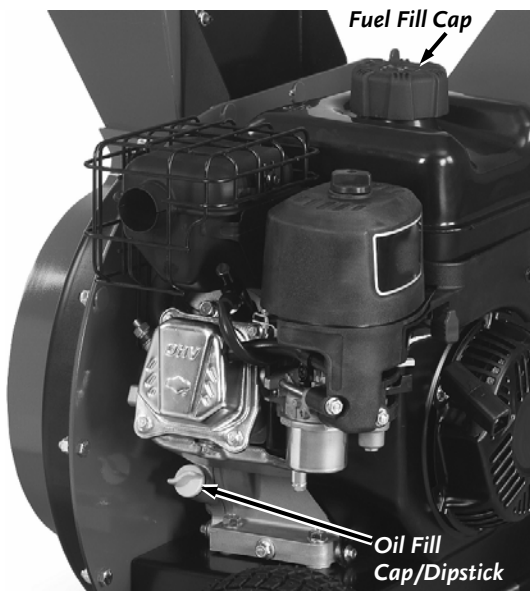

Figure 11
1. Position the machine so the Engine is level. Remove the Oil Fill Cap/Dipstick (**Figure 11**).